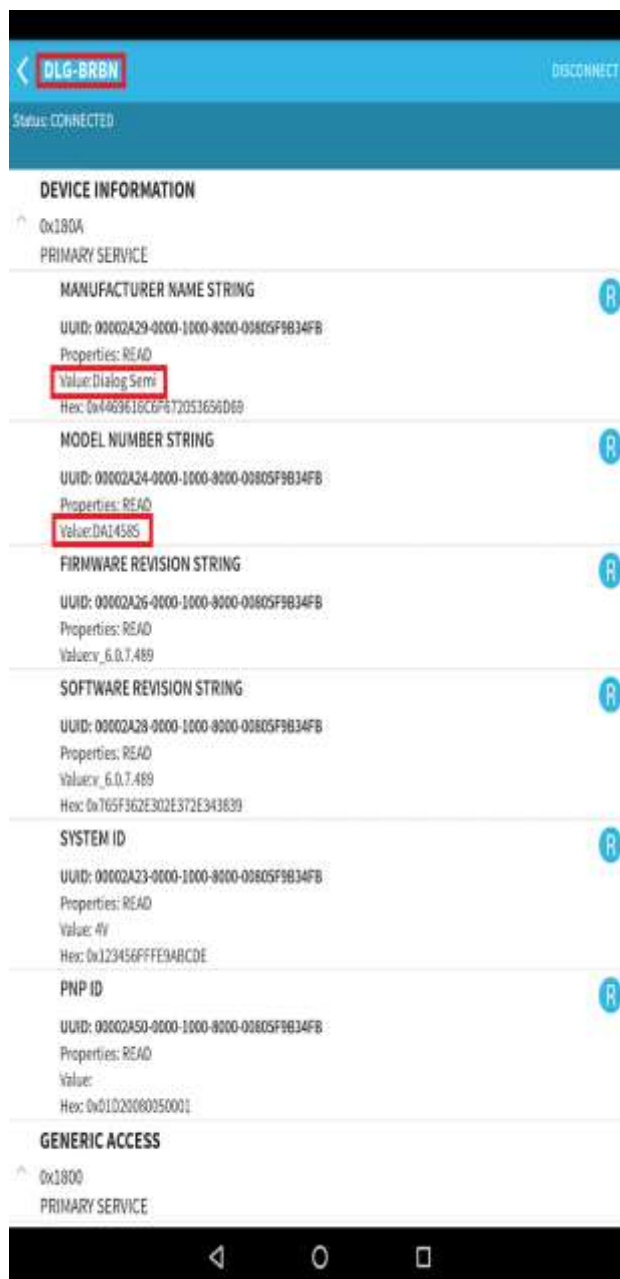

Figure 30: Barebone BLE: Interacting with BLE Application
4. Use the Android application BLE Scanner to scan for, and connect to, the DIALOG-BRBN app, see **Figure 30**.